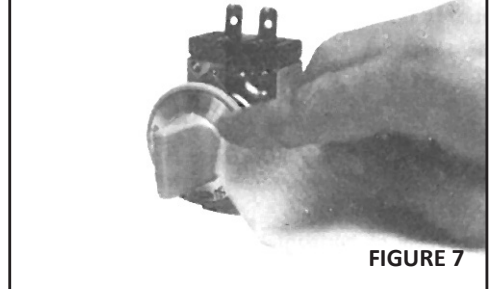

FIGURE 7
8. Press the SLIP-FIT overlay down firmly into position. Use a soft cloth and rub around the overlay to obtain a permanent fit. See Fig. 7.